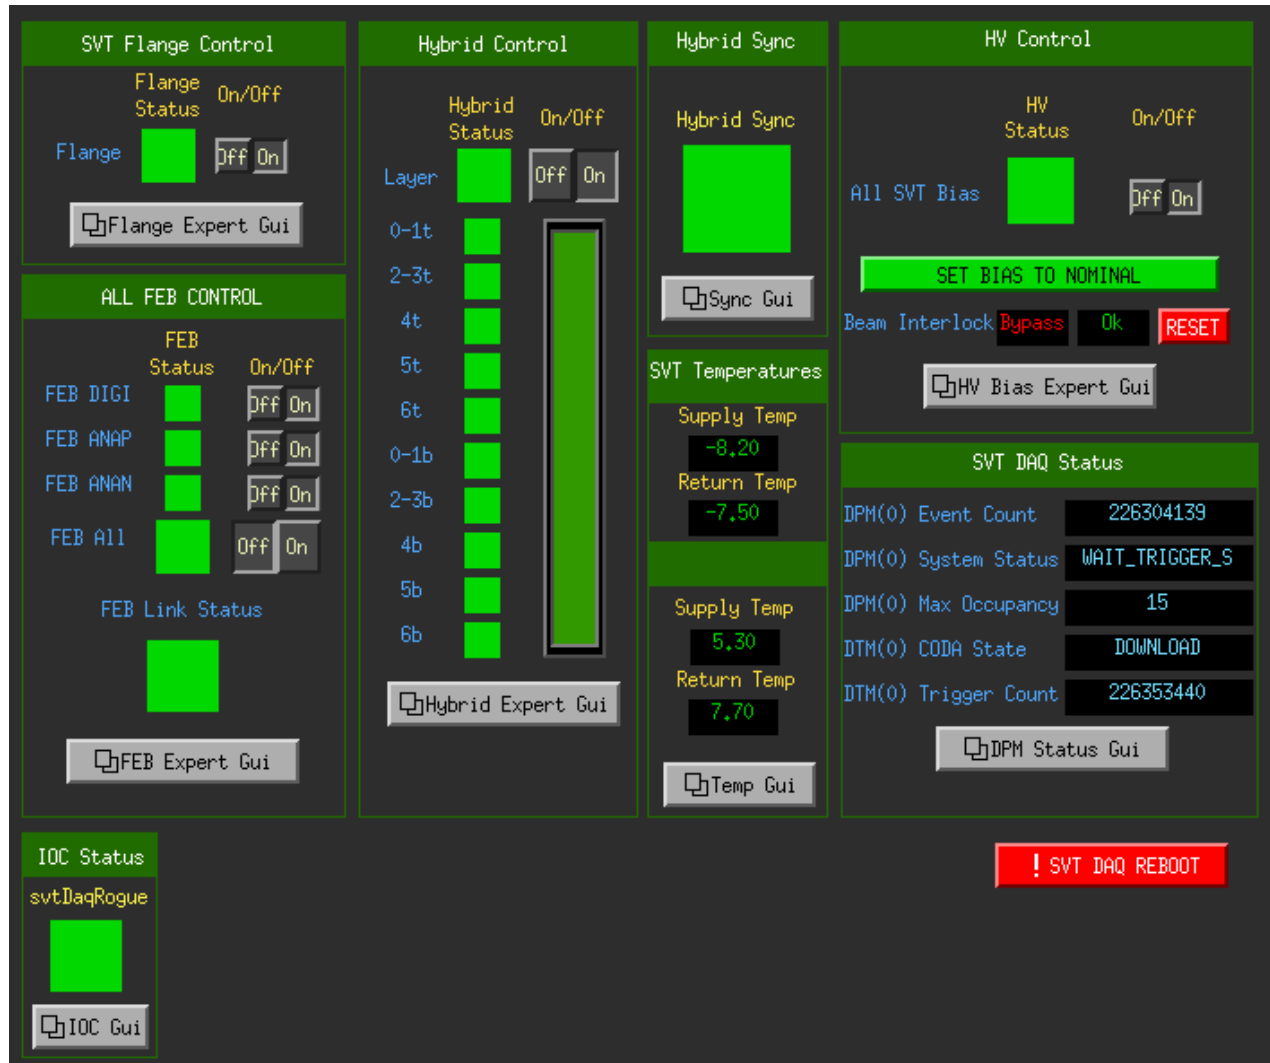

Figure 3: SVT summary GUI.
**For most of the steps below use the SVT summary GUI from Fig. 3 which can be started from the SVT sub-menu in the main EPICS control GUI.**